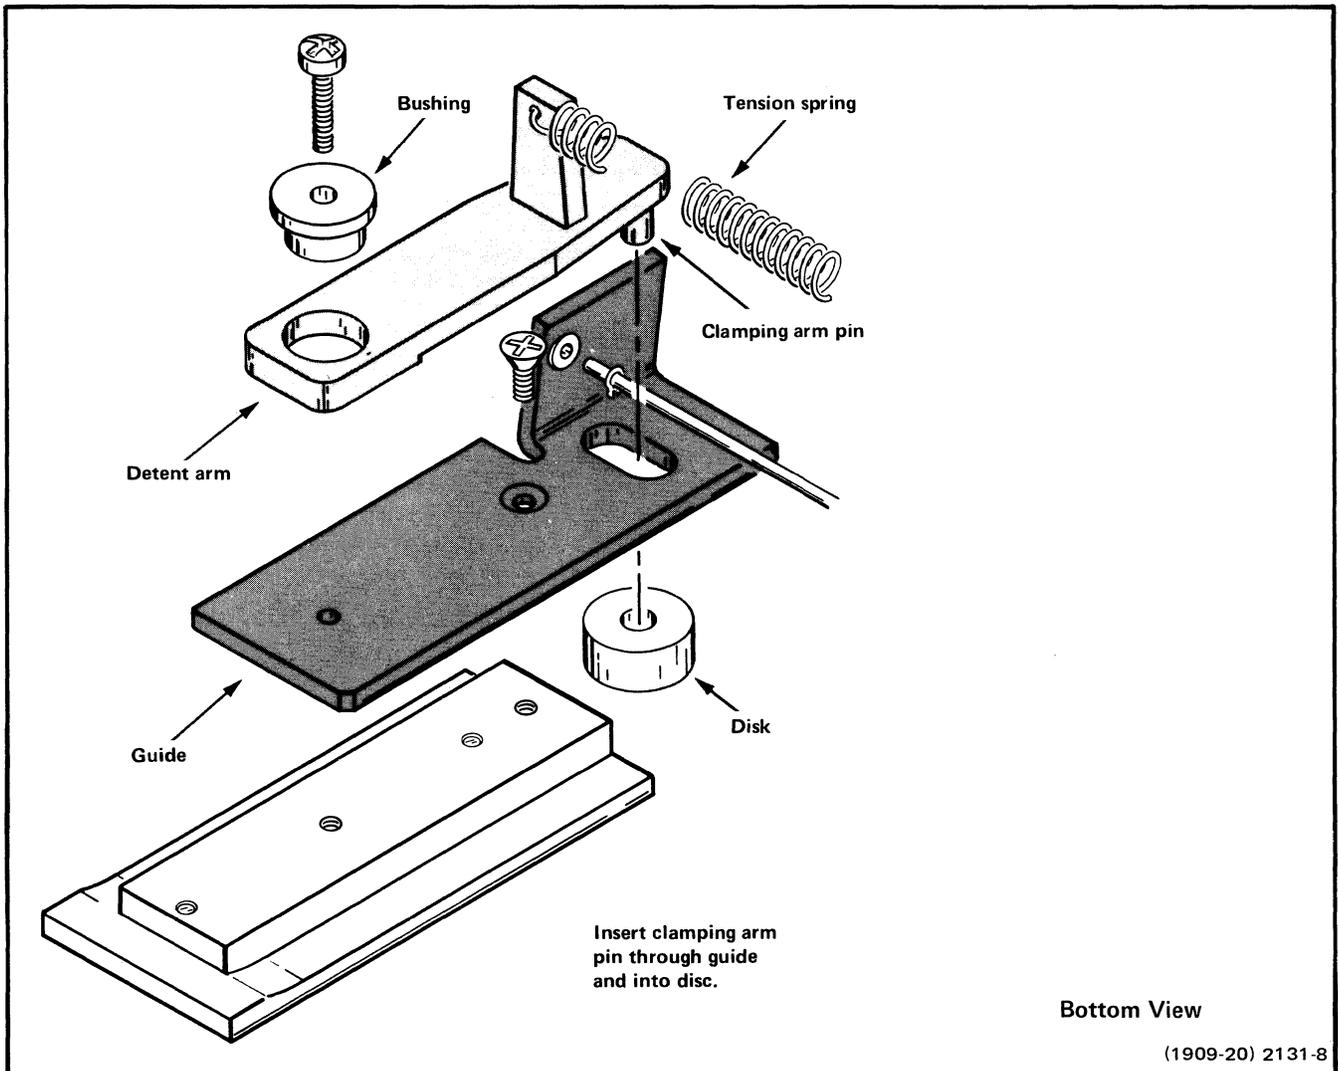

Fig. 3-11. Cartridge Guide Components.
1. If only the cartridge detent arms are to be removed, it is not necessary to remove the entire guide from the frame. Disconnect the tension springs (see Fig. 3-11), then remove the screws (one for each detent arm) that attach the arms to the guide. The arms may then be removed.
2. To replace the detent arm, position it back on the guide, with the pin through the slot in the guide and into the metal roller disk beneath the guide. (Refer to Fig. 3-11.) Install the aluminum bushings, then install the attaching screws. Install the spring ends into the mounting holes.
4. From the bottom side of the frame, remove the four screws that attach the guides to the frame (Fig. 3-11). After removal, clean the areas under the moving parts with alcohol and swabs.